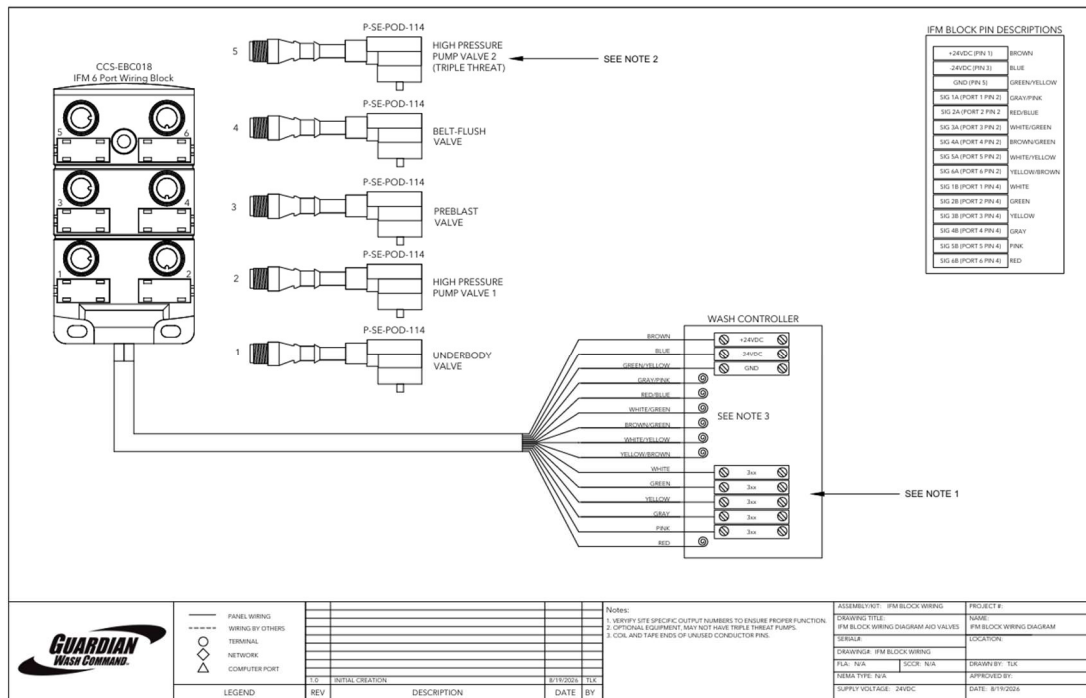

Figure 8. IFM block Pinout, larger image in appendix
Step 6: Wire the provided IFM block to Solenoid as described below and as shown in Figure 8 below.
IFM block cable is to be routed back to panel and connected to desired output blocks. Ensure that you are using signal B conductors as shown in the pin list for the desired outputs. Check function number before disconnecting existing output wiring from the MCP and replace the signal wires from the new IFM block. Connect IFM block blue conductor to (-)24vdc, green/yellow conductor to ground, and "SIG xB" conductors (color coding in Figure 8 Below) to desired outputs. Coil and tape unused conductors from IFM Block.